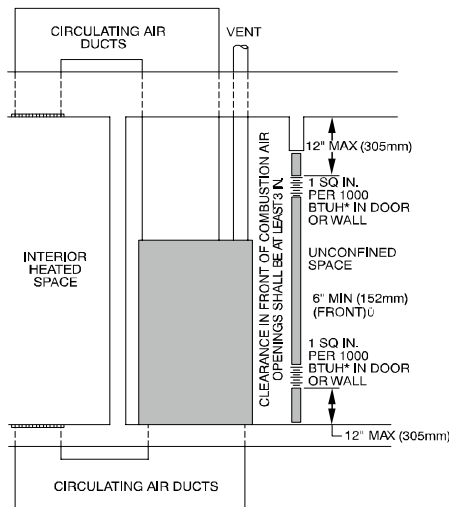

Fig. 7 – Air for Combustion, Ventilation, and Dilution from Indoors
- b. Combining spaces on same floor level. Each opening shall have free area of at least 1 in.2/1,000 Btuh (2,000 mm²/kW) of the total input rating of all gas appliances in the space, but not less than 100 in.2 (0.06 m²). One opening shall commence within 12 in. (300 mm) of the ceiling and the second opening shall commence within 12 in. (300 mm) of the floor. The minimum dimension of air openings shall be at least 3 in. (80 mm). See Fig. 7.